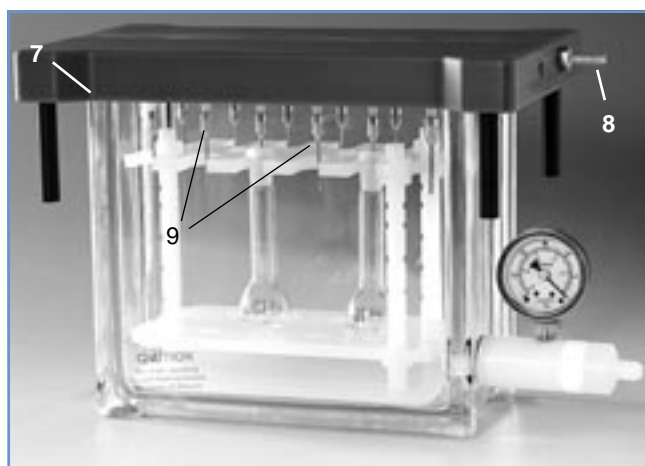

Figure 3: vacuum manifold with drying attachment
If the eluate has to be evaporated, this can be performed with the so-called drying attachment (7, see figure 3). This special lid has a gas connector on one side (8), from which the gas is fed simultaneously to the 12 or 24 stations (9). Thus 12 or 24 eluates can be evaporated simultaneously by just changing the lid and applying a stream of inert gas, e.g. nitrogen.